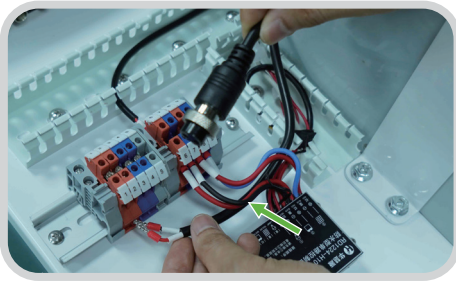
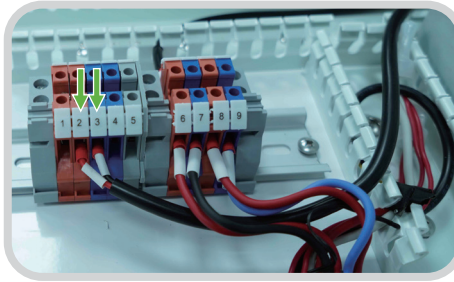
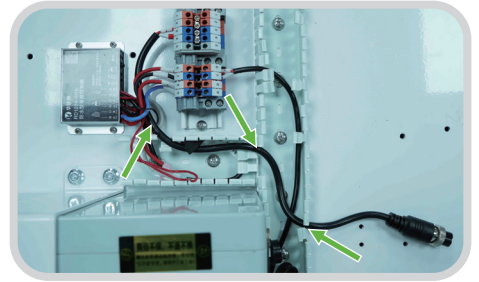

Figure 21-1
Figure 21-2
Figure 21-3
As shown in figure 21-1, the battery output line red (1) black (-) line from the solar controller line through the lower part, connected to the terminal row 2(Red) , 3(black) interface, and the terminal screw tightening, as shown in figure 21-2; Line Boxes A and B as shown in figure 21-3.